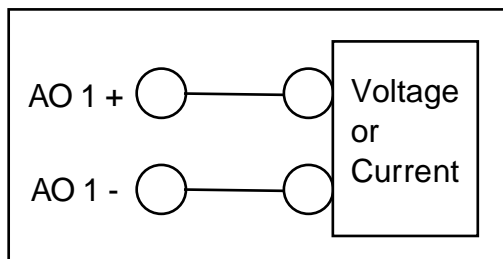
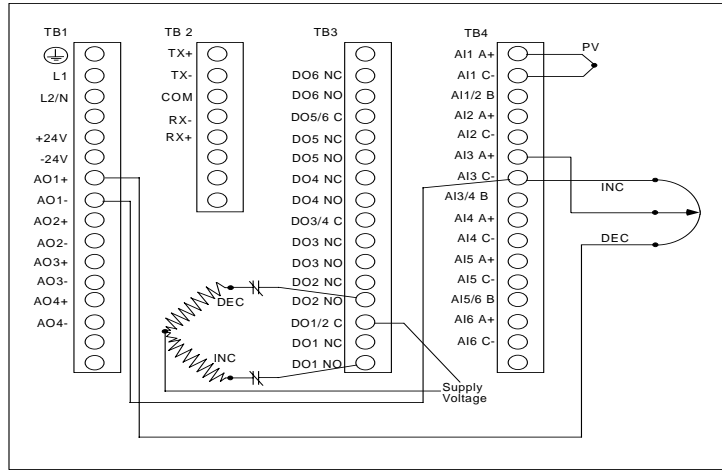

Figure 2-7 CAT or VAT Wiring Connection
**Figure 2-10 Discrete Output Connections**
Analog outputs may be Current Output (CAT), Voltage Output (VAT), Time Proportion Output (DAT) or Position Proportional Type (PP). For CAT or VAT wiring, see Figure 2-7. For DAT wiring, use general purpose output relays or open collector outputs. For Position Proportional wiring, see Figure 2-10. See Discrete Output Connections.
Make connections according to Figure 2-10.
Note: Figure 2-10 shows example wiring for DO1 and should be used for any Discrete Output.